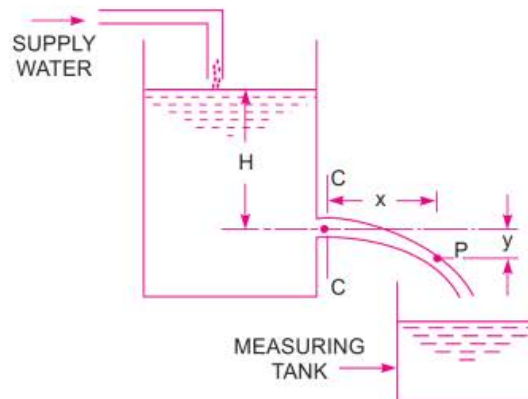

Fig. 7.2 Value of C_d
7.5.1 Determination of Co-efficient of Discharge (C_d). The water is allowed to flow through an orifice fitted to a tank under a constant head, H as shown in Fig. 7.2. The water is collected in a measuring tank for a known time, t . The height of water in the measuring tank is noted down. Then actual discharge through orifice,
7.5.2 Determination of Co-efficient of Velocity (C_v). Let $C-C$ represents the vena-contracta of a jet of water coming out from an orifice under constant head H as shown in Fig. 7.2. Consider a liquid particle which is at vena-contracta at any time and takes the position at P along the jet in time ' t '.